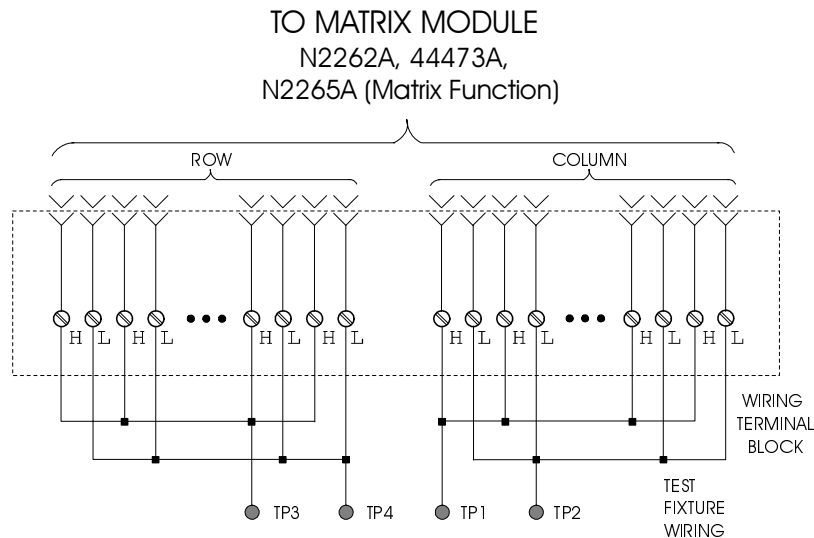

Figure 4-3. Matrix Modules Test Fixture
module's removable wiring terminal block as shown in Figure 4-3.
6. Connect the Multimeter between TP1& TP3 (or TP2 & TP4) on the test fixture (Figure 4-3 on Page 66);